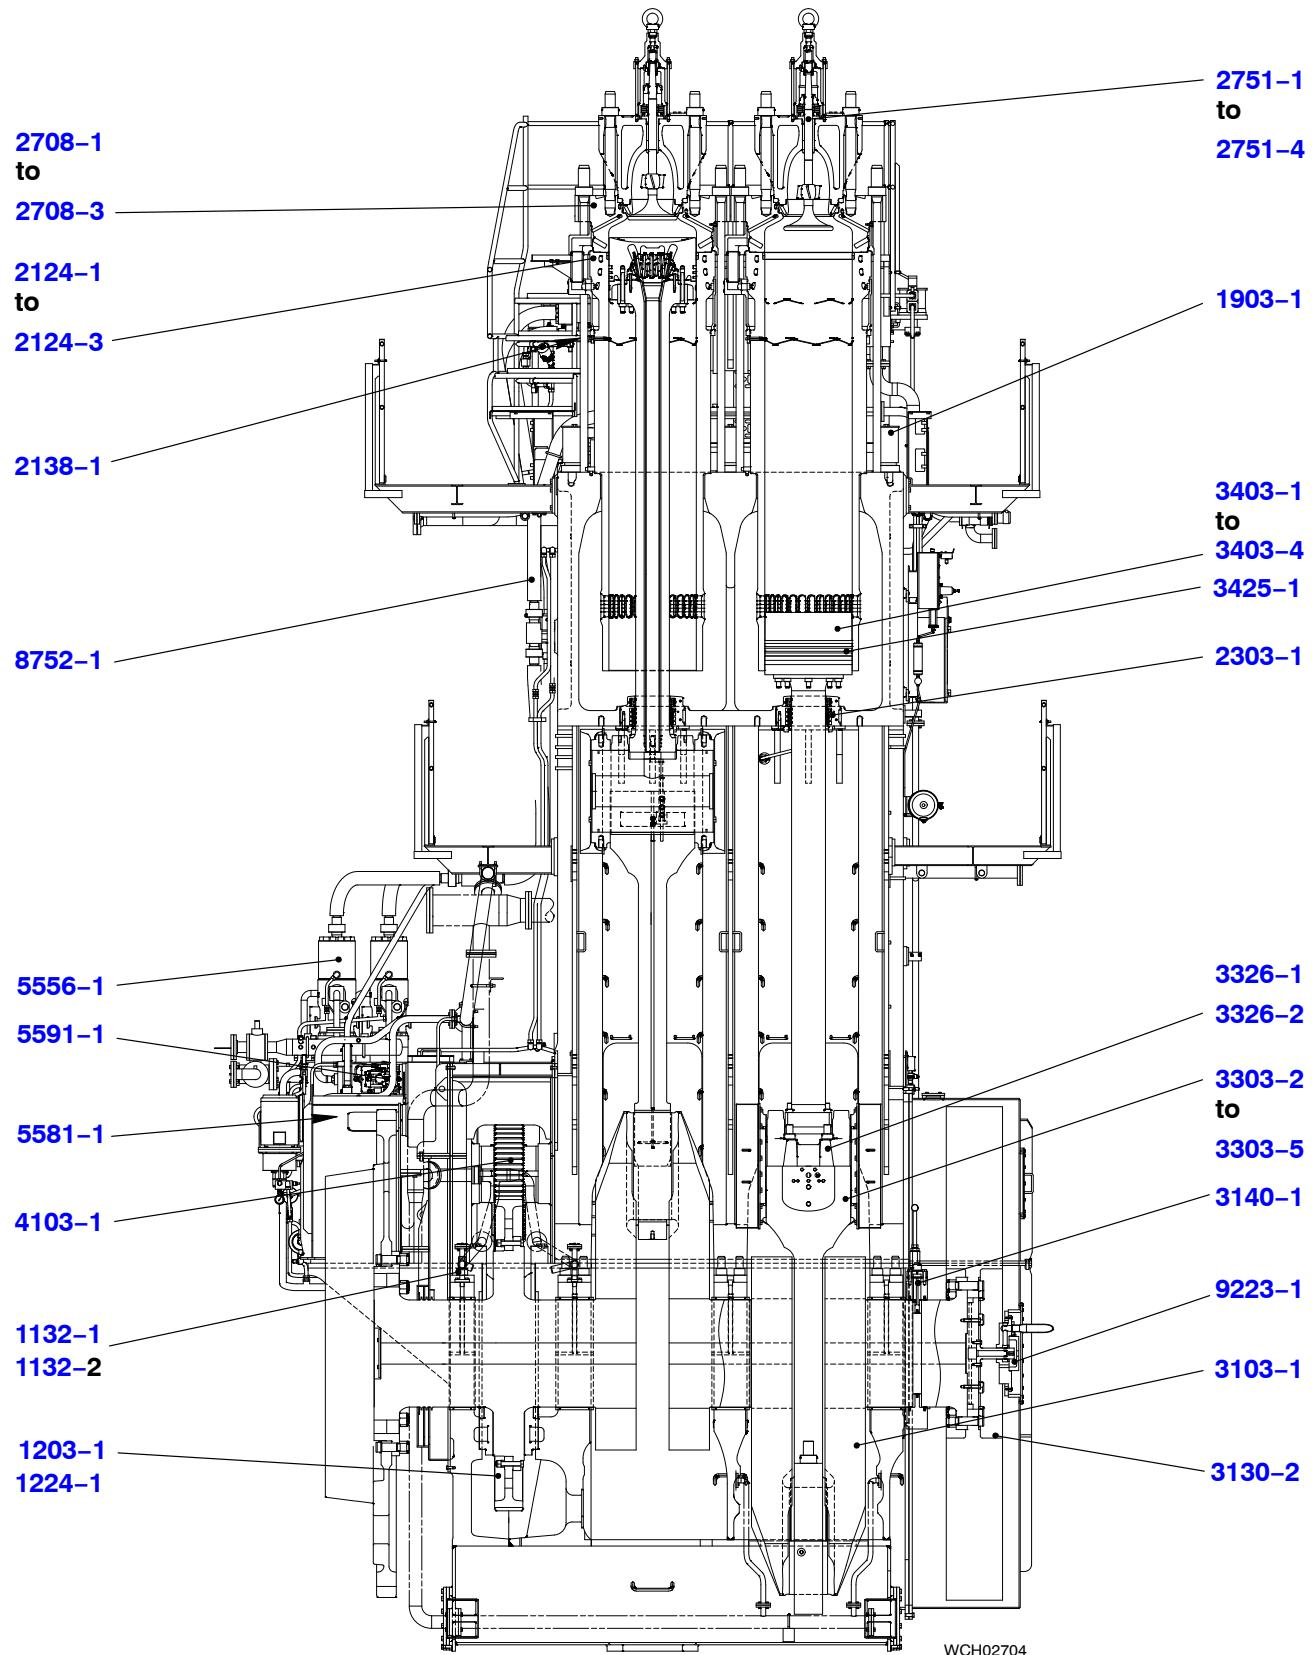

Fig. 2: Longitudinal Section
The remaining area is fastened with foundation bolts (1, Fig.2) and the short bush (2).